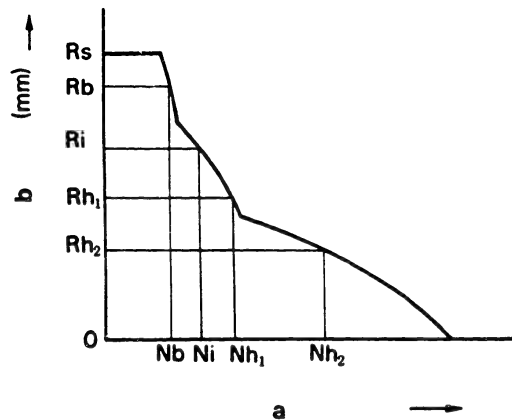

Fig. 194
- 1) With the pump speed maintained at 80 - 100 rpm, temporarily set the control lever so that the control rack position is R_s mm, the same as for the conventional type RLD governor. (Fig. 194)
Tightening torque: 2.5 - 3 kg-m (Figs. 194 and 195)
- 3) Increase the pump speed until the control rack position is at R_i mm and then check that the pump speed is N_i rpm. (Fig. 194)
- 2) Maintain pump speed at N_{h_1} rpm and adjust the amount the governor shaft is screwed in (tightening torque of nut: 1.0 – 1.5 kg-m) so that the rack position is R_{h_1} mm. (Figs. 194 and 197)